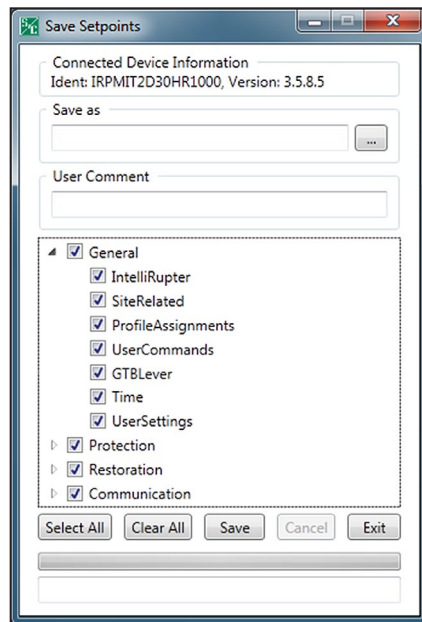

Figure 51. Save Setpoints dialog box.
- STEP 3.** In the Save Setpoints dialog box, click the check boxes for the groups to be saved. See Figure 51.